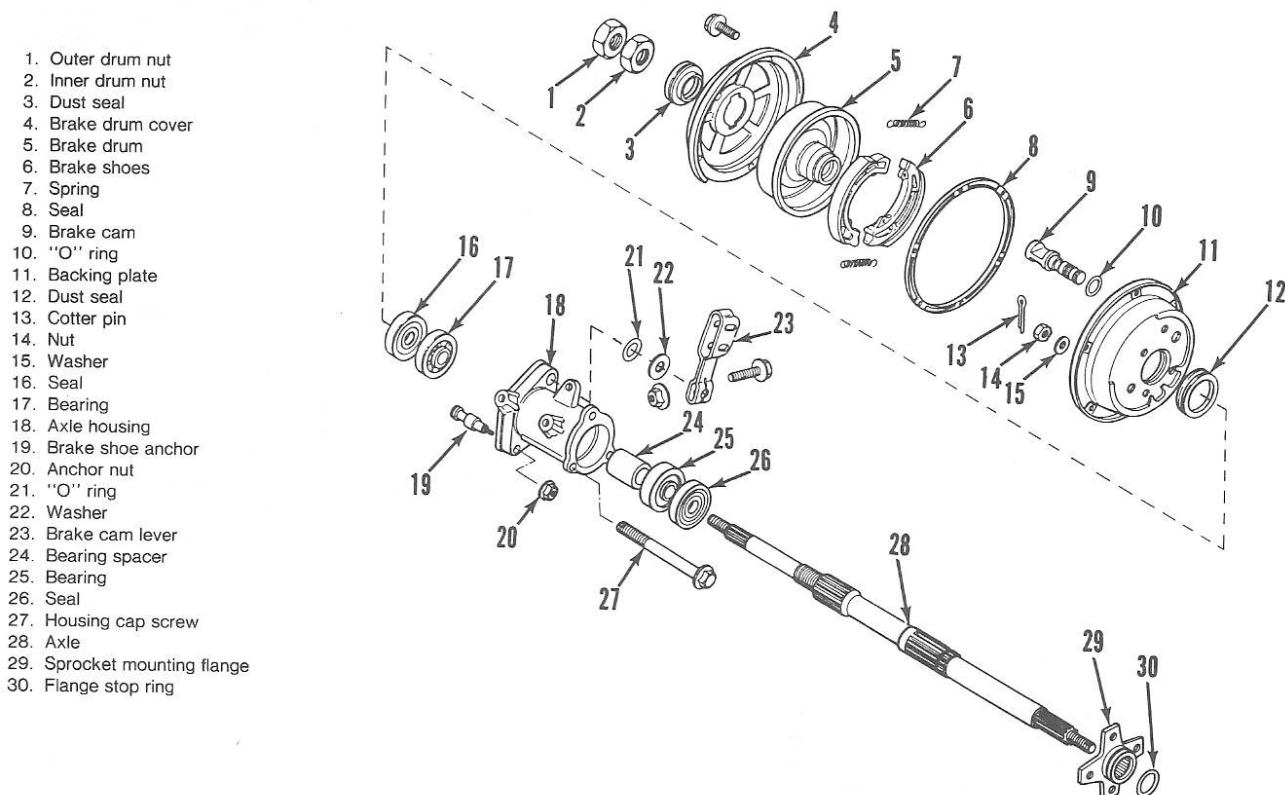

Fig. S6-26—Exploded view of brakes and rear axle assembly used on ALT185 and LT185 models. ALT125 and LT125 models are similar.
**R&R AND OVERHAUL.** To remove rear brake shoes for inspection or renewal, first suitably support rear of vehicle and remove right rear axle nut. Pull tire, wheel and hub off axle as an assembly. Remove the drum retaining nuts (1 and 2—Fig. S6-26). Unbolt and withdraw brake drum cover (4). Slide brake drum (5) off axle. Carefully extract the brake shoes (6) and springs (7) from backing plate.